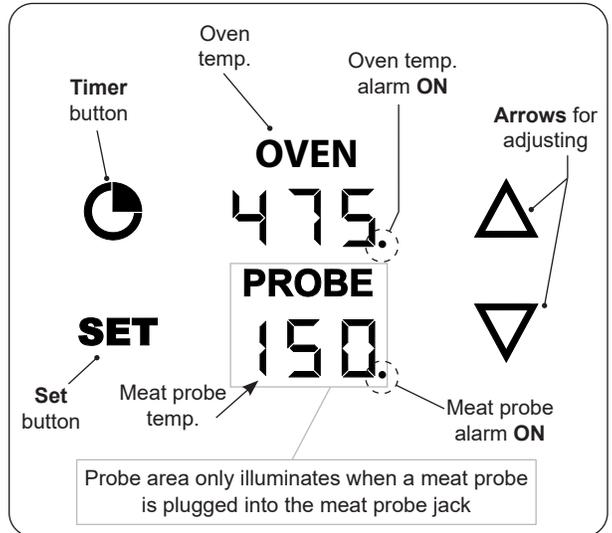

Fig. 38-2 Orientation (default screen)
Read the following sections completely regarding thermometer operation. Refer to Fig. 38-2 for thermometer orientation and button locations.
**Press thermometer power switch to turn ON:** The digital thermometer display and touch-controls will illuminate. See Fig. 38-2. This is the “**default screen**”.